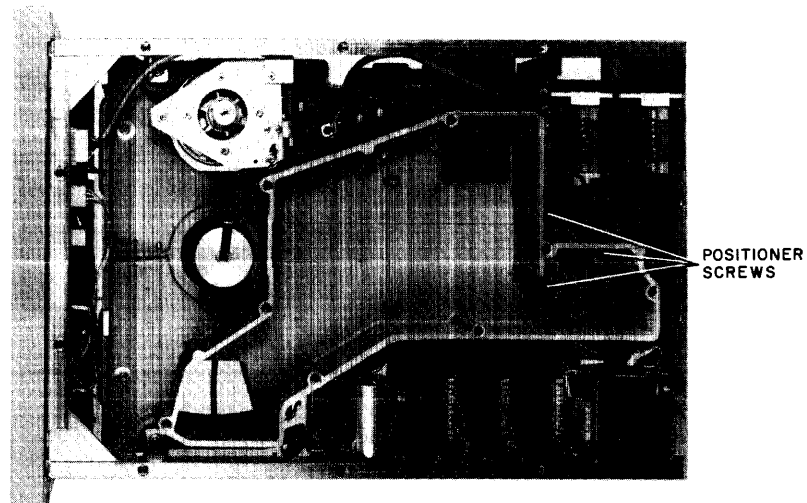

Figure 5-4 Bottom View with Covers Removed
10. Remove the three screws, beneath the baseplate, attaching the positioner to the baseplate (Figure 5-4).
2. Insert the three positioner holding screws (Figure 5-4) through the bottom of the baseplate and finger tighten the screws.